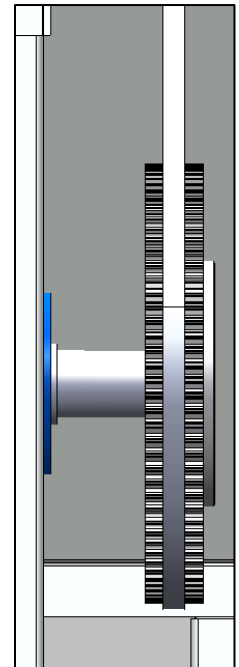

FIGURE 1.7-3: BELT ALIGNMENT
- 7) Verify the alignment by manually spinning the generator pulley. The belt should remain centered on the pulley (Figure 1.7-3).